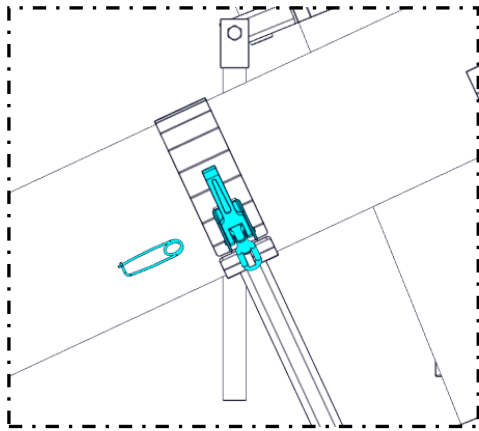

Figure 4.12
- A) Remove the safety pin and open the over-center latch on the transfer auger support holding the transfer auger to the mill trailer (Figure 4.12).